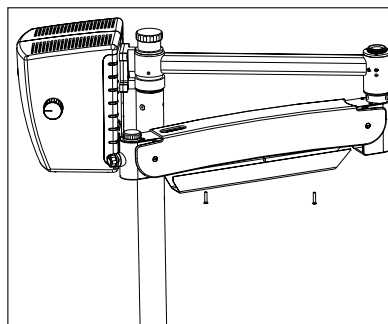

Fig. 11
7.15 Remove the swivel arm locking knobs A & B. Remove the self tapping screws fixed on the top and bottom side of cover for swivel arm. Fix these panels on swivel arm and fix back the screws removed earlier. Make sure that wire for Fibre optic is passed through while fixing the panels. See fig 11 and 12..